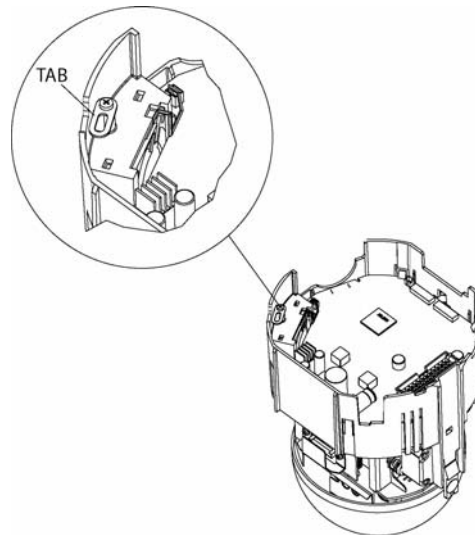

Figure 2
4. Connect the enclosure's safety cord clip to the tab in the camera mechanism to allow the drive to hang from the enclosure. Refer to Figure 2 for location of tab.
6. Lift the camera mechanism up to the housing and attach the housing's safety cord clip to the camera mechanism's tab. Allow the SurveyorVFT mechanism to hang from the housing. Refer to Figure 2.
7. Lift the SurveyorVFT camera mechanism up to the housing/sunshield and attach the housing's safety cord clip to the camera mechanism's tab. Allow the camera mechanism to hang from the housing. Refer to Figure 2.